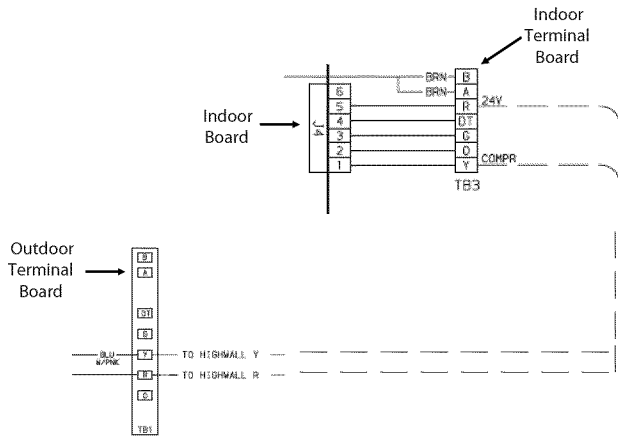

Fig. 22 - 38HDF Control Terminal Strip
2. Route one end of the control wiring through the opening provided in the unit side panel and connect to the control terminal strip using either Fig. 21 for 38HDF units and Fig. 22 for 38QRF units.